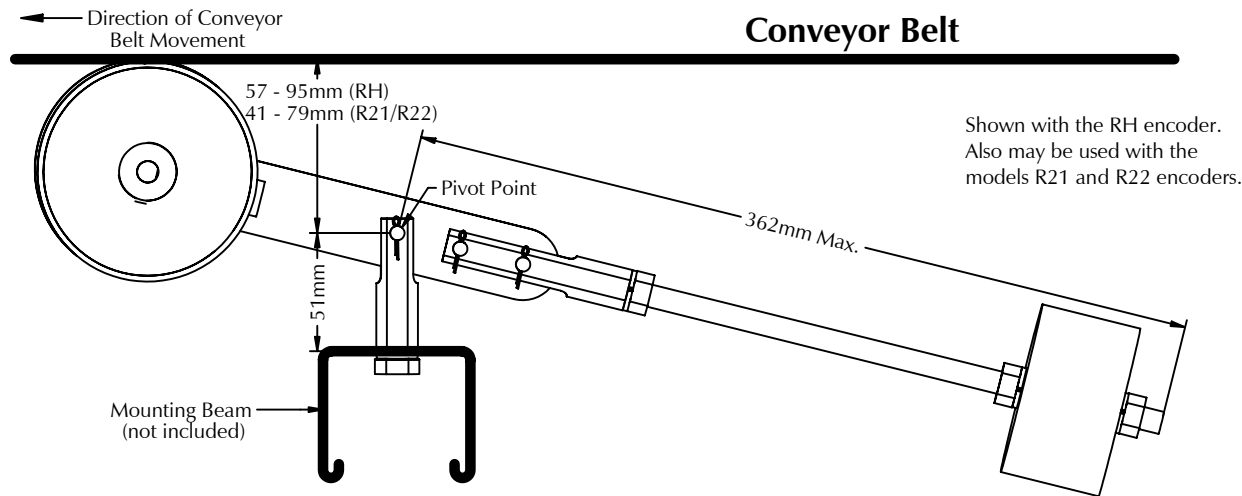

Figure 1: MB-UB1M (units in millimeters)
The MB-UB1M Counter Weight assembly facilitates mounting the model RH, R21 and R22 wheeled encoders under the conveyor belt (or roller) as shown in figure 1. The Y-3M yoke provides a pivot point so the encoder wheels maintain contact and alignment with the belt, compensating for up/down and some sideways movement of the belt. Nylon washers are included to accommodate the thinner handle on the R21 and R22 wheeled encoders.
4. Bolt the Y-3M yoke to a mounting beam (not supplied) using the M10-1.5 bolt and lock washer. The Y-3M should be perpendicular to the conveyor belt with the pivot point below the conveyor belt as shown in figure 1, and positioned so the encoder is aligned with the belt. Caution: If the encoder is not aligned with the belt, premature wheel wear will result.